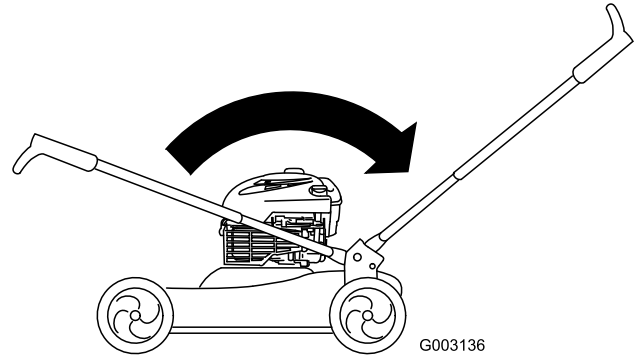

Figure 6
3. Rotate the handle rearward (Figure 6) until it clicks into place.